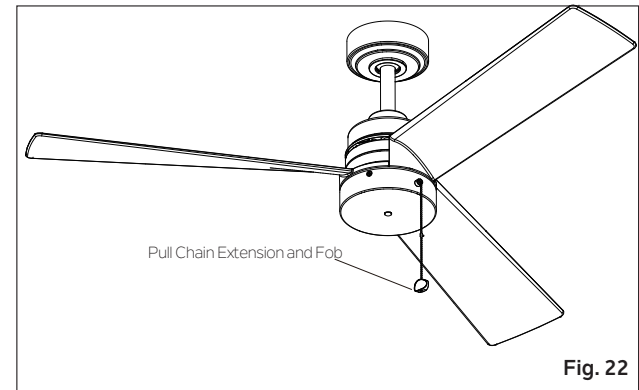

Fig. 22
Step4. Install the pull chain extension and fob. **(Fig. 22)**